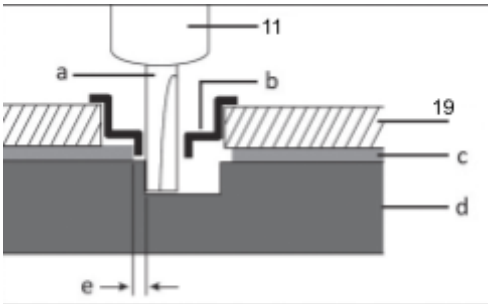

Figure 9
Template & guide bush routing (Figure 9)
- **Template Function:** Templates (**Figure 9-c**), when used with a guide bush (**Figure 9-b**), enable the router to create consistent and repeatable shapes in your workpiece.
- **Understanding Offset:** Be aware that the cut on the final workpiece will differ from the template opening. The guide bush offset (**Figure 9-e**) must be calculated before cutting.